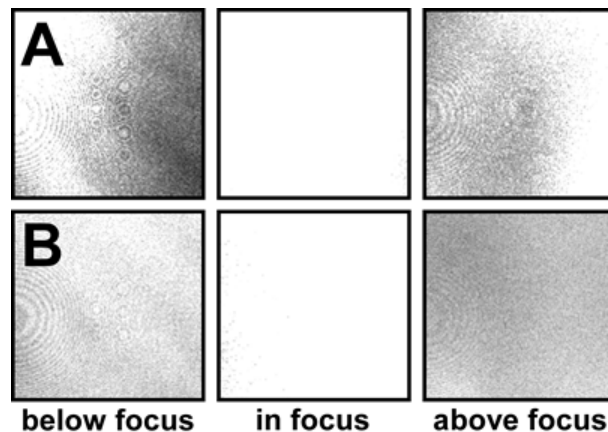

Fig. 10 Focus control with focus drive. Course of reflection on tilted (A) and even (B) coverslip when moving focus upwards (left to right)
5. Check for the tilt of the coverslip border. If the picture gets uniformly brighter and darker when focusing through the coverslip border, the stage is leveled. Any tilt will appear as a brightness gradient or even a bright zone or line that wanders through the slices (Fig. 10).
7. If you use a defined z-scan repeat steps 4. through 6. until you achieve a good result. If you focus manually, turn screws until reflection looks even (Fig. 10/B).